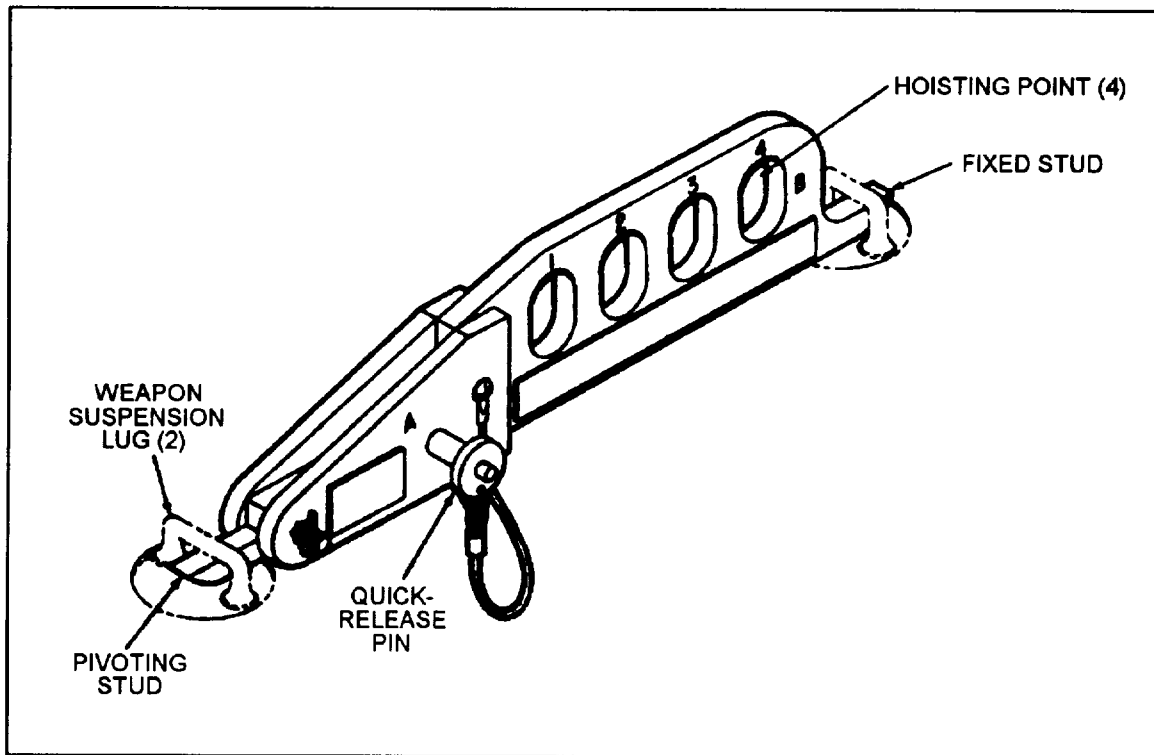

Figure 2-10.—Mk 49 Mod 1 weapon carrier.
**MK 49 MOD 1 WEAPON CARRIER.**— The Mk 49 Mod 1 weapon carrier is used as a lifting attachment for hoisting mines with suspension lugs spaced 14 inches apart. The steel-plated carrier, shown in figure 2-10, has a lifting capacity of 2,500 pounds and has four hoisting points and two attaching studs. A fixed stud is at one end of the strongback, and a pivoting stud is at the other end. They are locked in place on the mine by a quick-release pin.